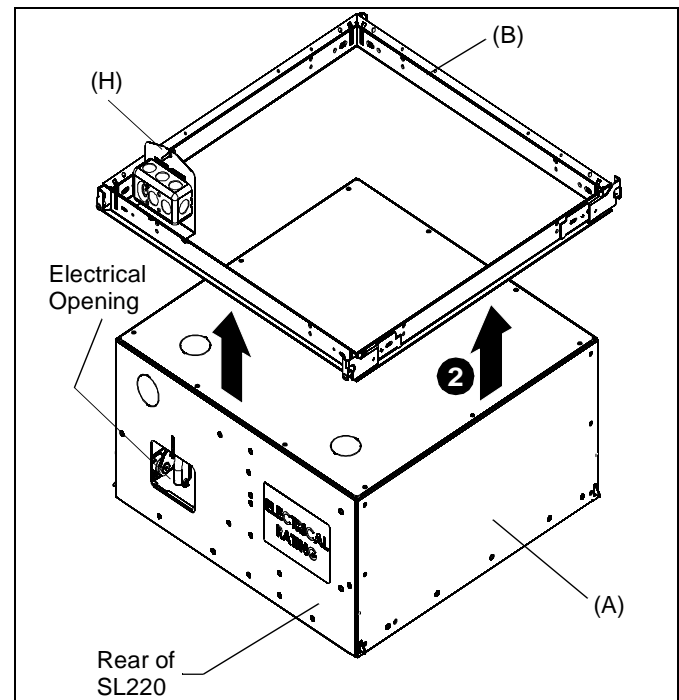
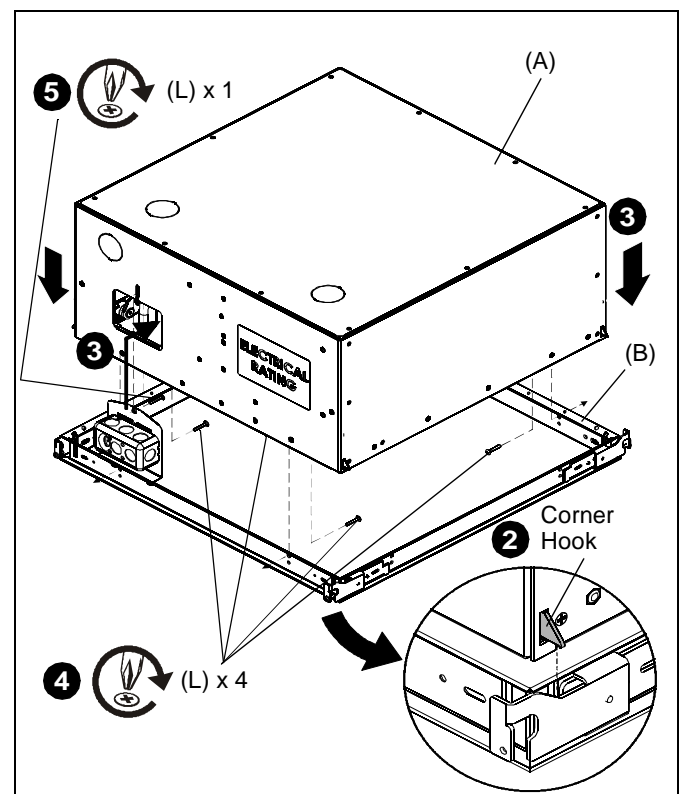

Figure 16
Figure 17
1. Orient SL220 so that the rear of the SL220 (with the electrical opening) lines up with the outlet box attachment plate (H) on the SL220 frame. (See Figure 16)
2. Lift SL220 (A) into place through the SL220 frame (B). (See Figure 16) Ensure that there are four audible clicks---each corner hook "clicking" into place onto the frame. (See Figure 17)
3. Lower onto SL220 frame, carefully lining up outlet box attached to SL220 frame, with opening at rear of SL220. (See Figure 17)
4. Secure the SL220 (A) to the SL220 frame (B) using four 8-32 x 1" Phillips head screws (L), two in the front and two in the back of the SL220. (See Figure 17)
5. Secure the outlet box attachment plate (H) to the SL220 using one 8-32 x 1" Phillips head screw (L). (See Figure 17)